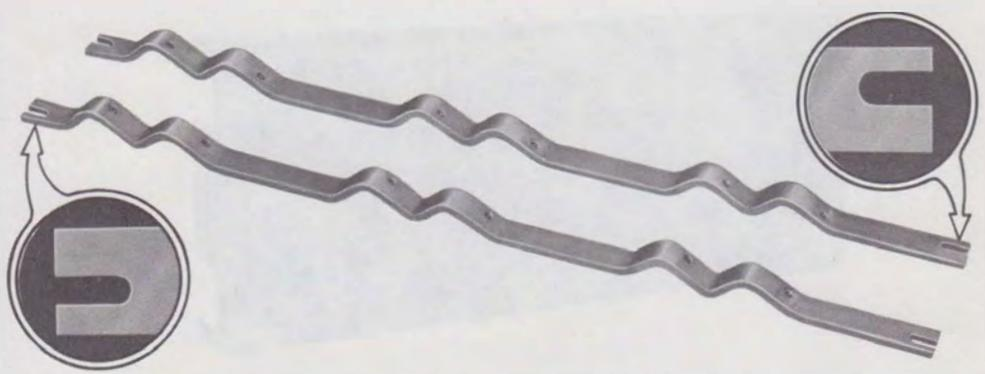

Fig. 42—Bent Mounting Bars Per ED-69143-70
6.06 The bent mounting bars per ED-69143-70† (Fig. 42) are used to mount angle-bracket